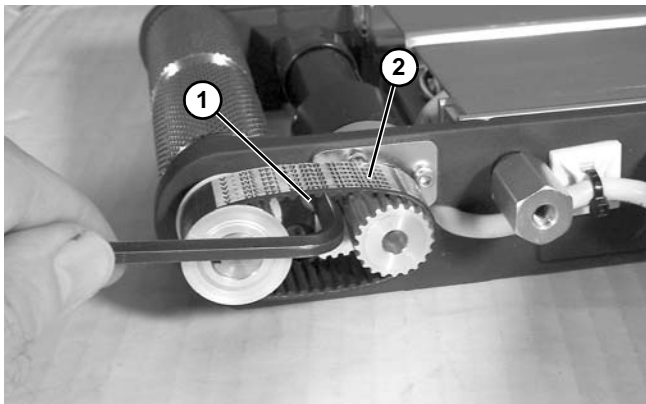

Figure 86
5. Loosen timing belt tension cam (Figure 86, item 1).
6. Remove timing belt (Figure 86, item 2).